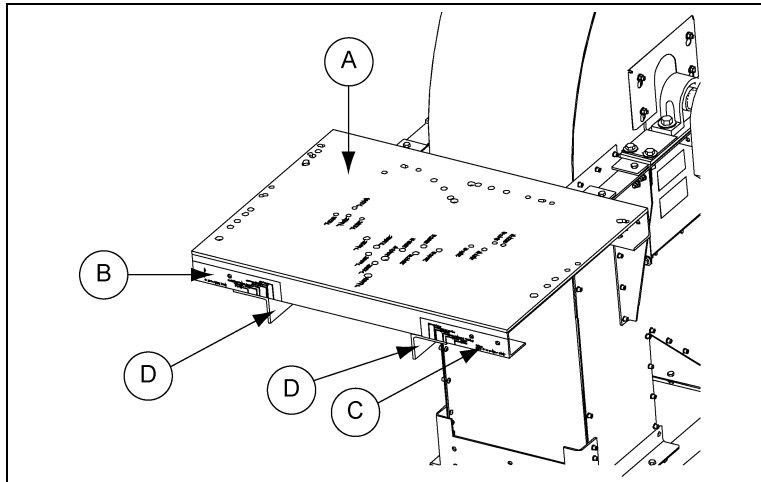
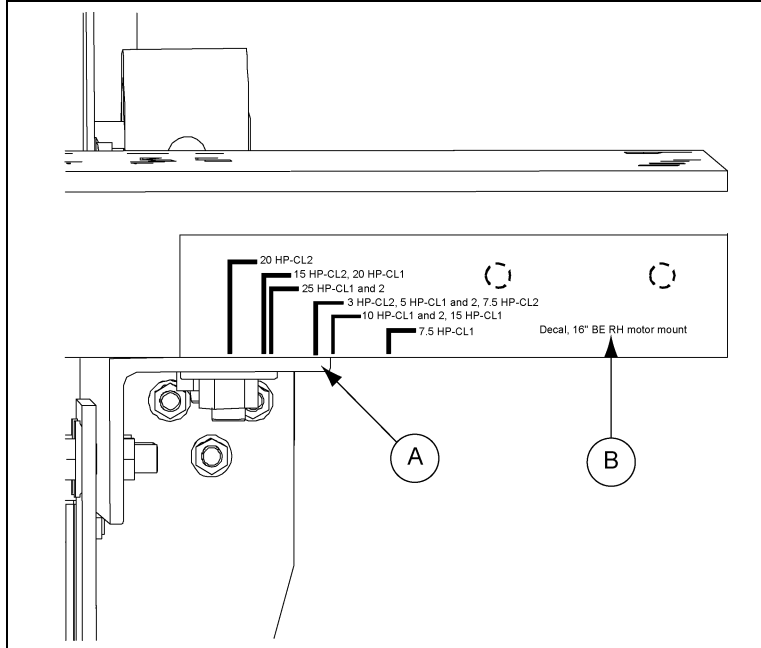

Figure 11A Motor Mount Plate
Figure 11B Right Hand Motor Placement Decals
The Figure 11A and Figure 11B on Page 35 shown for a right hand application.
1. Locate the side of the motor mount which has two (2) decals affixed. (See Figure 11A on Page 35.) One decal will have “L.H.” for left hand and one will have “R.H.” for right hand.
4. Slide the motor mount in or out while keeping the decal correctly aligned with the outside toe of the head bearing angle. (See Figure 11B on Page 35.) This will align the holes in the head bearing angles to the proper holes in the motor mount assembly.
5. Using the proper hardware, bolt the motor mount down to the head bearing angles. (See Figure 11A on Page 35.)